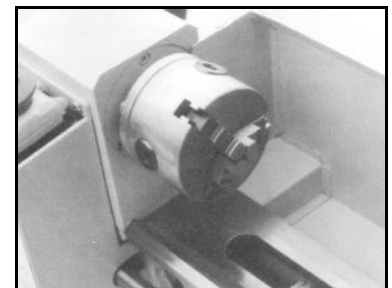

Figure 15 – Spindle key.
1. insert the work piece into the spindle and secure it by tightening the jaws with the appropriate key. insert the key in one of the hollow, square sections on the spindle and turn it clockwise to tighten in the jaws (see **Figure 15**).
10. After waiting for the spindle to stop, remove the piece from the spindle itself, opening the jaws with the appropriate key. To do this, insert the key into one of the hollow, square sections on the spindle (see **Figure 15**) and turn it anticlockwise.